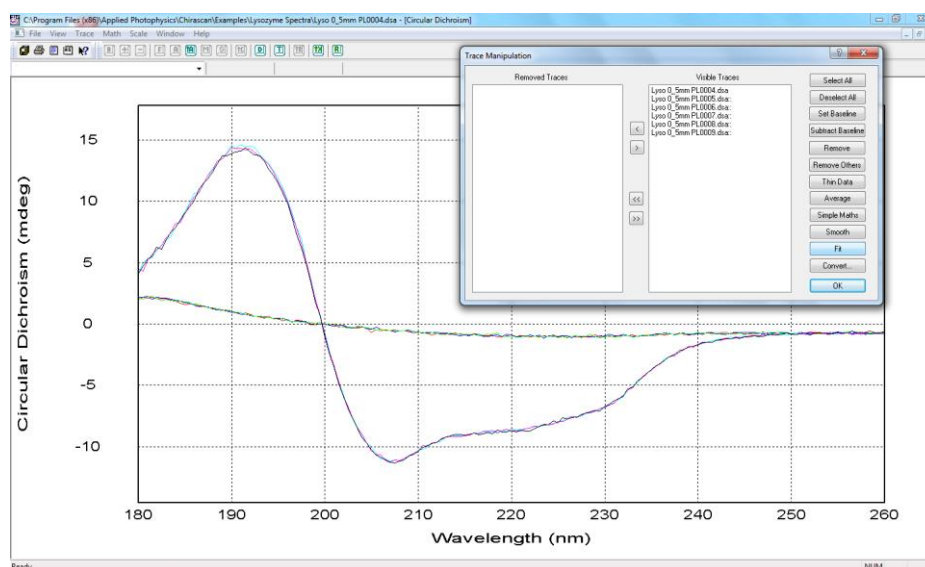

Figure 2.7: Raw data with Trace manipulation dialog called up
3. Click on  in the graphical display toolbar to call up the **Trace manipulation** dialog (Figure 2.7)